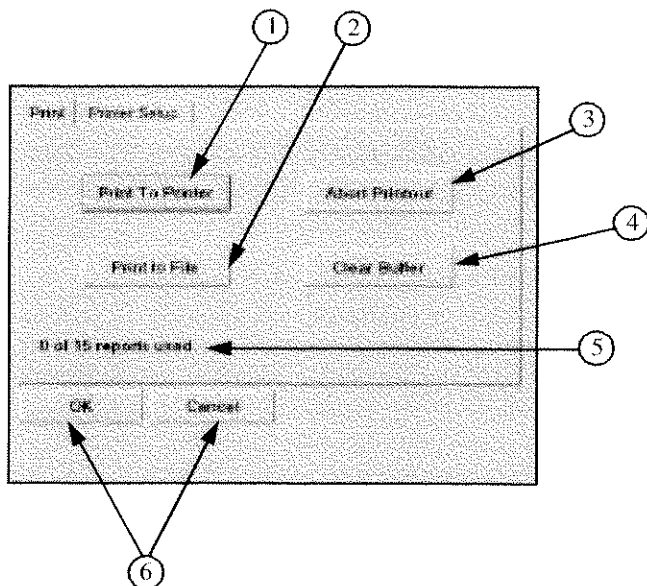

Figure 3-1. Printer Screen
The TTC/T-BERD 1000 printout generation is controlled through the Printer Screen (see Figure 3-1), which is activated by pressing the Printer Icon on the right side of the Main Display.
1. Ensure test results are available for output by checking the buffer counter (see Figure 3-1). Also, ensure the proper cable is available; use a 9-pin D (male) to a 9-pin D female. Set cable aside, for now.